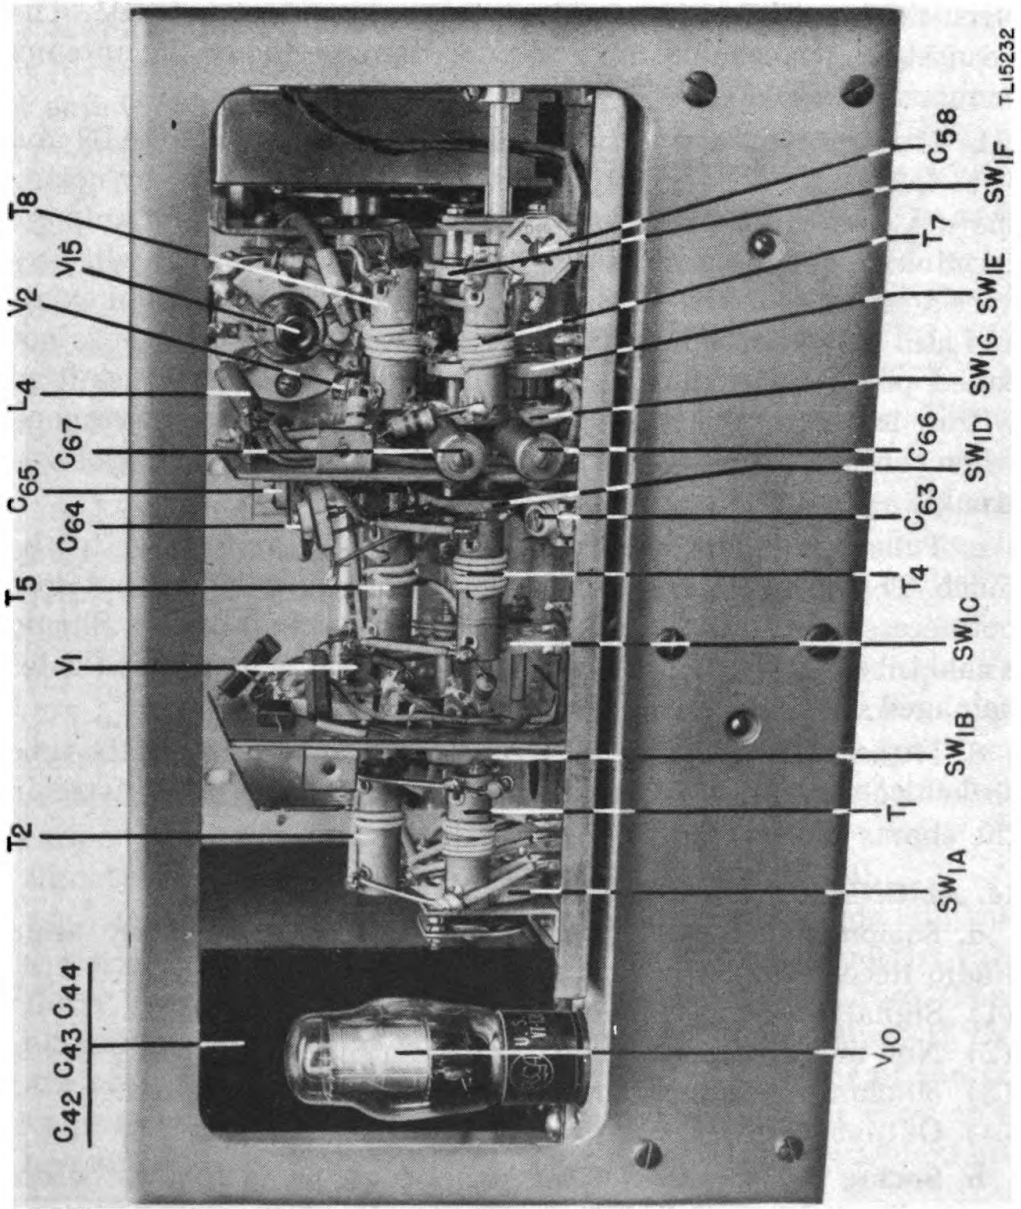

Figure 18. Radio Receiver BC-787-B, side view of r-f section with shield removed.
(1) **BAND 1 ALIGNMENT.** Tune the signal generator and receiver to 42 mc. Adjust capacitor C66 for maximum signal. Adjust capacitor C63 and ANTENNA trimmer C2 for maximum response. Refer to figures 18 and 19 for location of adjustment points. On this band the high-frequency oscillator transformer T7 is tuned 5.25 mc higher than the antenna transformer T1 and the R-F transformers T4. Retune both the signal generator and the receiver to 28 mc. Adjust capacitor C50 for maximum output while rocking the TUNING control (capacitor C1).
(3) **BAND 3 ALIGNMENT.** Set the BAND SWITCH at Band 3. Tune the signal generator and the receiver to 120 mc. Adjust capacitor C65 and the ANTENNA trimmer C2 for maximum response while rocking the TUNING control (capacitor C1). See figures 18 and 19 for adjusting points. It is not recommended that the frequency of the oscillator transformer T9 be adjusted in the field. However, should it be necessary to do so to insure opera-